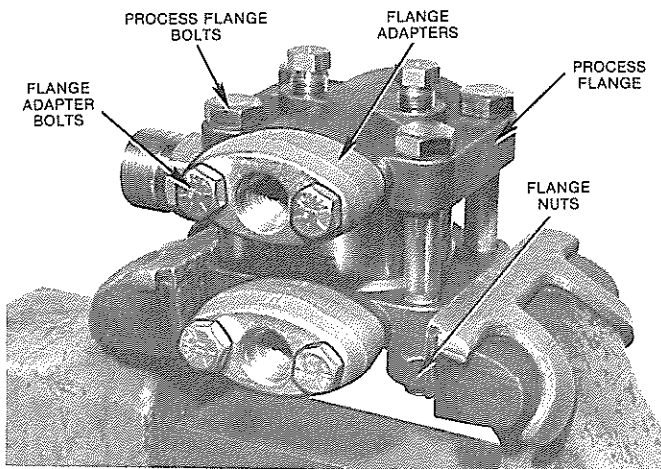

FIGURE 29 – Transducer Assembly Positioned in Vise A8463
6. Position the transducer assembly in vise (with soft jaws) so that the transducer is in a horizontal plane and flange bolt heads are up, as in Figure 29. Vise jaws should clamp on the rough-casted (non-machined) surface of the bottom process flange. Secure in vise.
23. Insert the process flange bolts through the process flanges as shown in Figure 29. Flange bolt heads should be on top. (Be sure that the flange bolts are grade 8 carbon steel for 3600 psi applications.)